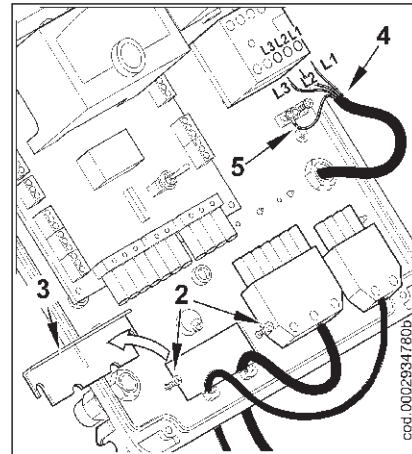

Figure 2
- 2) Loosen the screws (2) and, after removing the cable float plate (3), pass the two 7 and 4 pole plugs through the hole (see figure 2). Connect the power supply cables (4) to the contactor, connect the cable to ground (5) and close the cable holder.